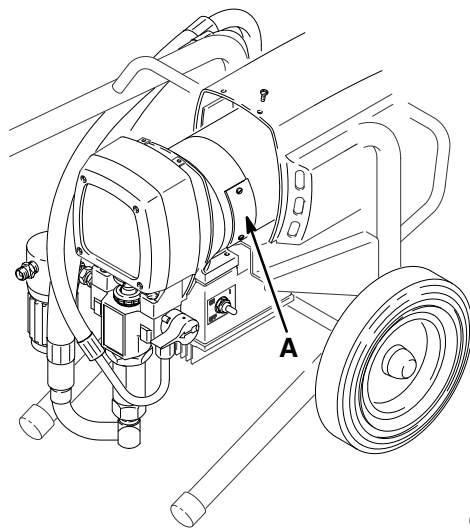

Fig. 14
1. Remove the motor shield (2).
2. Remove both inspection covers (A) and their gaskets. See Fig. 14.